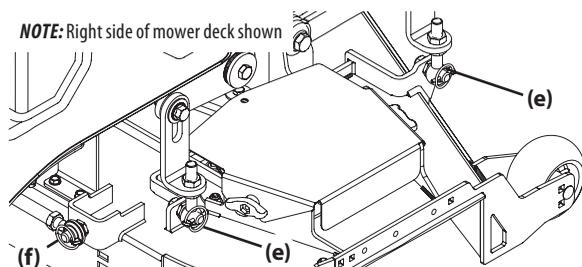

Figure 36
4. Remove the four lynch pins (e) that secure the deck to the deck lift assembly (Figure 36).
5. Remove the lynch pin (f) securing the rear stabilizer bar to the rear, right side of the deck. (Figure 36).